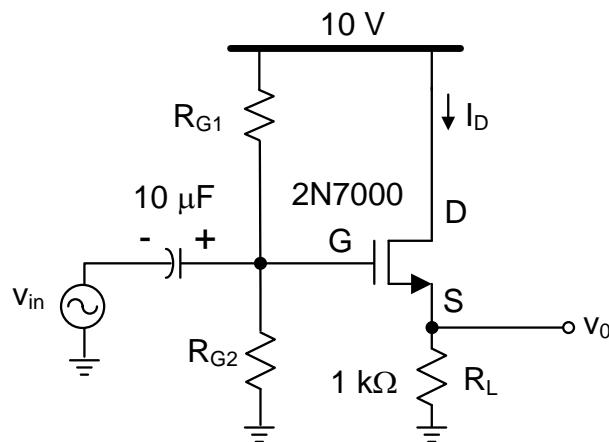

Fig. 4. Common-drain configuration
8. For the circuit in Fig. 4, use the parameters you extracted in the previous lab for the 2N7000 and find the values of I_D and the resistors so that the magnitude of the small signal voltage gain is greater than -2 dB. Select the values of R_{G1} and R_{G2} so that $R_{G1} || R_{G2} > 100 \text{ k}\Omega$. Check the operating point of your design and verify that the voltage gain is approximately given by $g_m(R_L || 1/g_m)$. Compute the values for the input impedance and output impedance.
9. Construct the circuit in Fig. 4 in PSpice and determine the input impedance, output impedance and voltage gain. Compare these values with the calculated values. Explain any differences.
10. Measure the frequency response of the circuit in Fig. 4 and find the low and high frequency poles.
10. Construct the circuit shown in Fig. 4. Use the resistor values computed in the pre-lab and verify these values using PSpice. A potentiometer might be needed to achieve the required bias voltage.